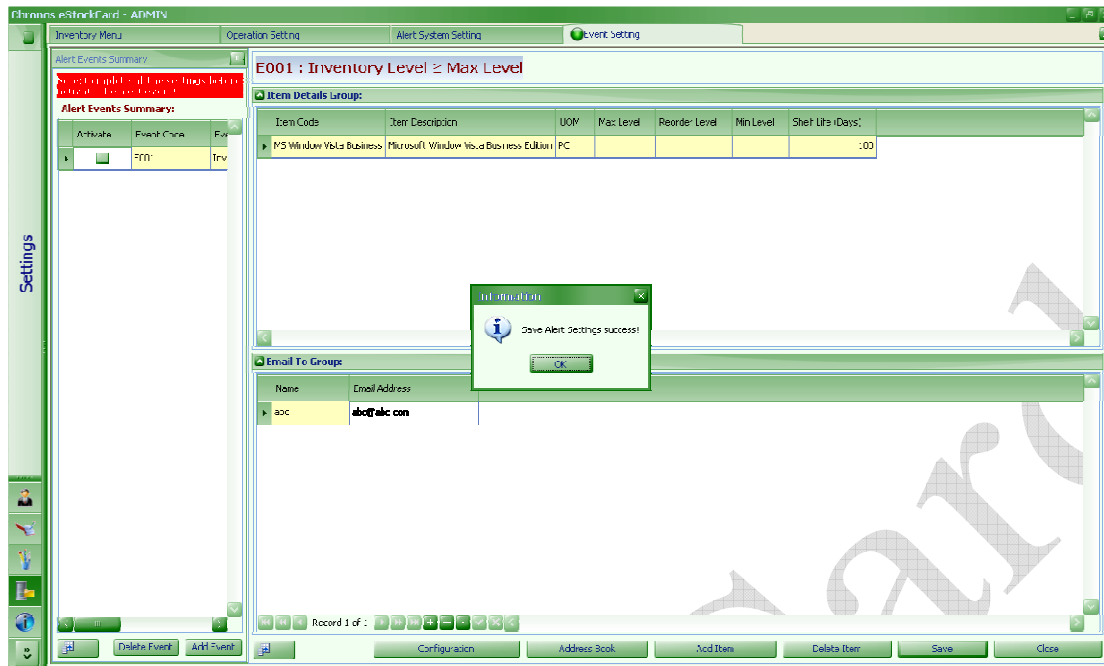

Fig. 67
Step 8 Activate “Alert Scanning Engine” to scan the event you just have created. Tick “Activate” from the “Alert Events Summary” sub-screen and click “Save”, You have completed event setting. (Fig. 67)